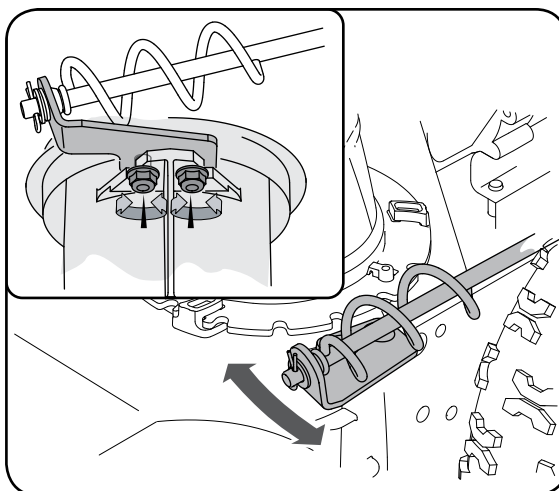

Figure 7
1. Loosen the two nuts which secure the chute bracket and reposition it slightly. See Figure 7.